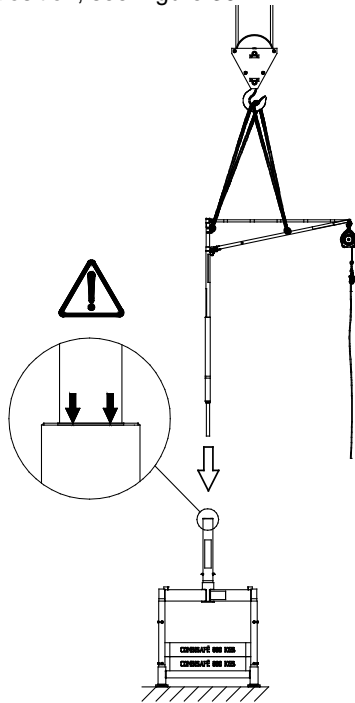

Figure 30. Placement of the SkyReach unit into Top Column 4.7. Beware of the crane and its movement to avoid injuries.
11. Use a crane to lift the assembled SkyReach Anchor and lower it into the Top Column 4.7/SkyReach Adaptor 5.9, see Figure 30. Use the Reach Hook to guide the SkyReach into place if needed. Make sure that the correct length of the SkyReach is inserted, please observe the Insertion Marking Label position, see Figure 30.